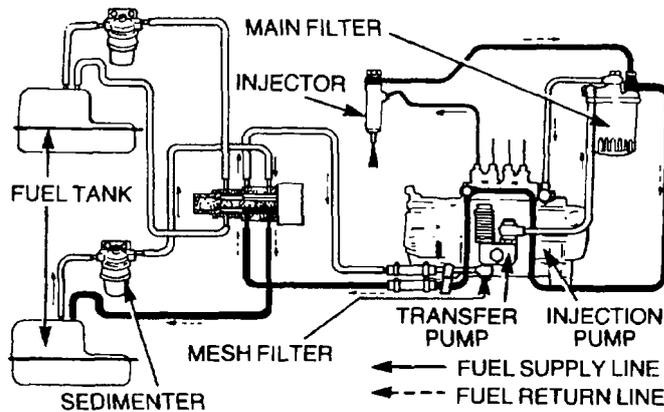

Figure 11 Fuel System
43. An outlet pipe, fitted to the top of each fuel tank, allows the transfer pump to draw fuel from the tank selected by the changeover switch on the dashboard. When the transfer pump is operating, it draws fuel from the selected tank via the fuel lines. The fuel passes through a sedimenter (refer to Figure 11) where water and large particles of contaminants are separated from the fuel. It then flows from the sedimenter to the transfer pump, passing through a fine mesh filter (strainer) before entering the pump. The transfer pump provides fuel at a pressure of 176–245 kPa (25.5–35.5 psi) to the fuel filter. The filtered fuel is then supplied to the injection pump, where it is pumped under high pressure, approx 18 000 kPa (2610 psi), to the injectors via the high-pressure fuel lines.